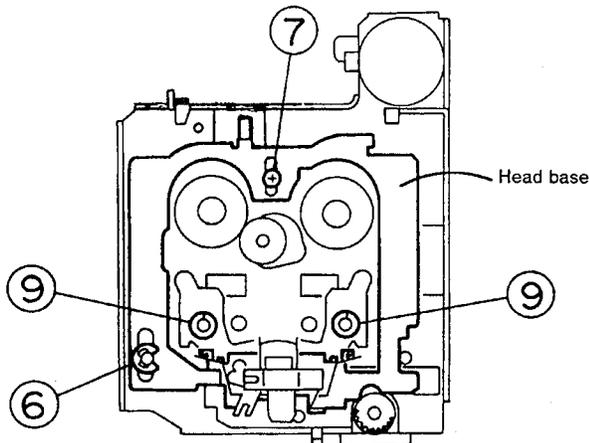
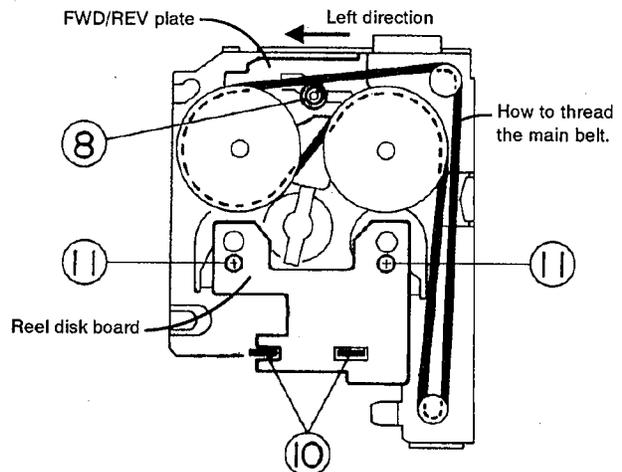
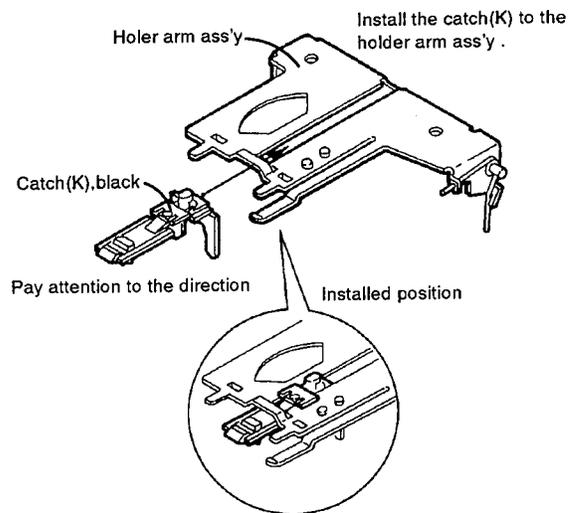

Fig. 4-13
Fig. 4-14
Fig. 4-15
■ **Head base** (See Figs. 4-13 and 4-14)
- 3) Remove the E washer ⑥ from the left shaft of the pinch roller.
- 4) Remove screw ⑦ for the head base.
- 5) Turn the head base upside down, then remove the C washer ⑧ securing the collar which secures the FWD/REV plate (the collar can also be removed.) (At this time, if the main belt is removed, operation will be made easier.)
■ **Flywheel ass'y** (See Figs. 4-13 and 4-14)
- 3) Remove two C washers ⑨ attached to the capstan shaft (remove both the right and left washers).
■ **Reel disk board ass'y** (See Fig. 4-14)
- 1) Straighten the bent tabs ⑩ holding the reel disk board.
- 2) Remove two screws ⑪ fixing the reel disk board.
■ **How to assemble the cassette holder and sub chassis** (See Figs. 4-15 through 4-18)
**Step 1. How to install the catch (K)**